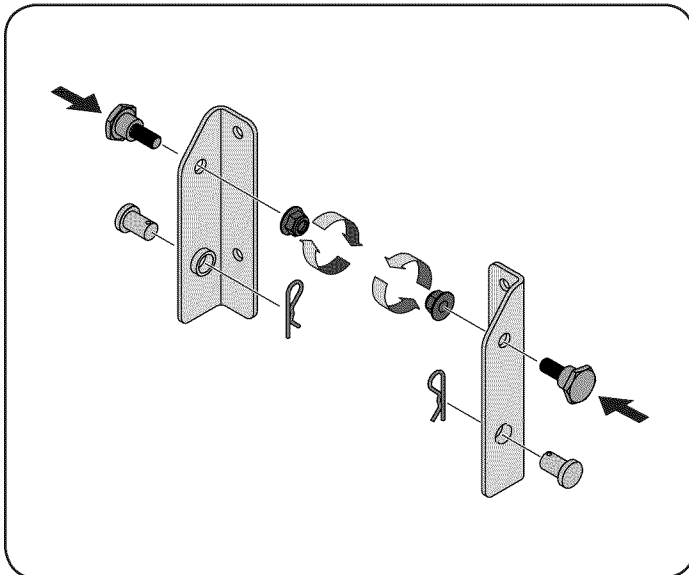

Figure 1
1. Install a shoulder bolt from your hardware pack on each bracket, securing them with flange lock nuts also included in the hardware pack. Refer to Fig. 1.
2. Insert the clevis pins from your hardware pack on each bracket, securing them with clip pins also included in the hardware pack. Refer to Fig. 1